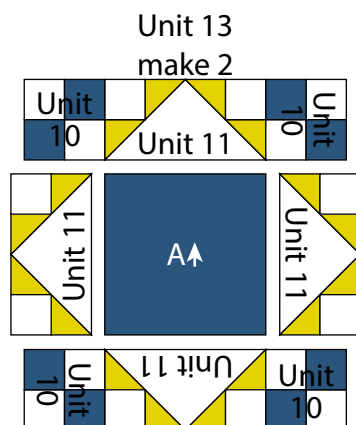

Fig. 21
24. Sew (1) Unit 10 square to each end of (1) Unit 11 strip to make the top row. Repeat to make the bottom row. Sew (1) Unit 11 strip to each side of (1) $6\frac{1}{2}$ " Fabric A square to make the middle row. Sew together the (3) rows lengthwise to make (1) $12\frac{1}{2}$ " Unit 13 square (Fig. 21). Repeat to make a second Unit 13 square.